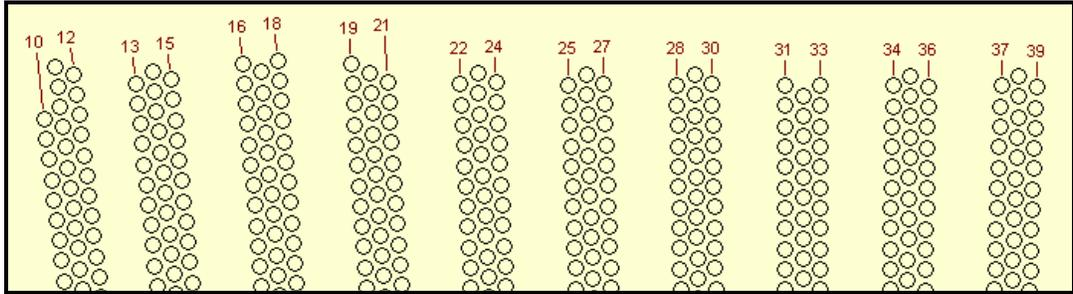

Figure 38. Groups of Tubes Beginning With a First Row Other Than '1'
- **First Row:** Enter the row number of the first row in the group. The default is '1' (one); however, additional groups may begin with a row number other than '1' (one). In Figure 38, ten (10) groups of tubes are shown, all assigned to the same section. Note that each group begins with a different **First Row** number. Figure 38 is a portion of a complex main condenser tubesheet map, which was captured from the main **MakeComp** window.
- **Group Angle:** This parameter allows the user to rotate a group to any desired angle. This feature is especially useful when building complex tubesheet maps such as main condensers containing steam lanes at a variety of angles. If no rotation is desired, set the field to '0' (zero). In Figure 38, each group shown is rotated about  $1^\circ$  from the adjacent group. Furthermore, note that the general direction of the rows is vertical and numbered from the top to the bottom.